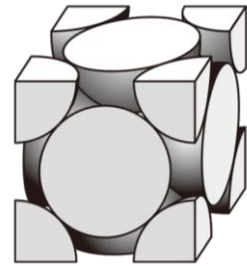

Fig. 4-1
- (1) Find the specific surface area (cm^2/g) of the cement A with three significant digits.
- (2) When the cement A is packed in a cubic container with each side of 1 cm in the densest packing condition as shown in Fig. 4-1, give the filling ratio (%), bulk density (g/cm^3), and the diameter of the largest sphere (μm) that can fit into the gap between the particles, using two significant digits, respectively.